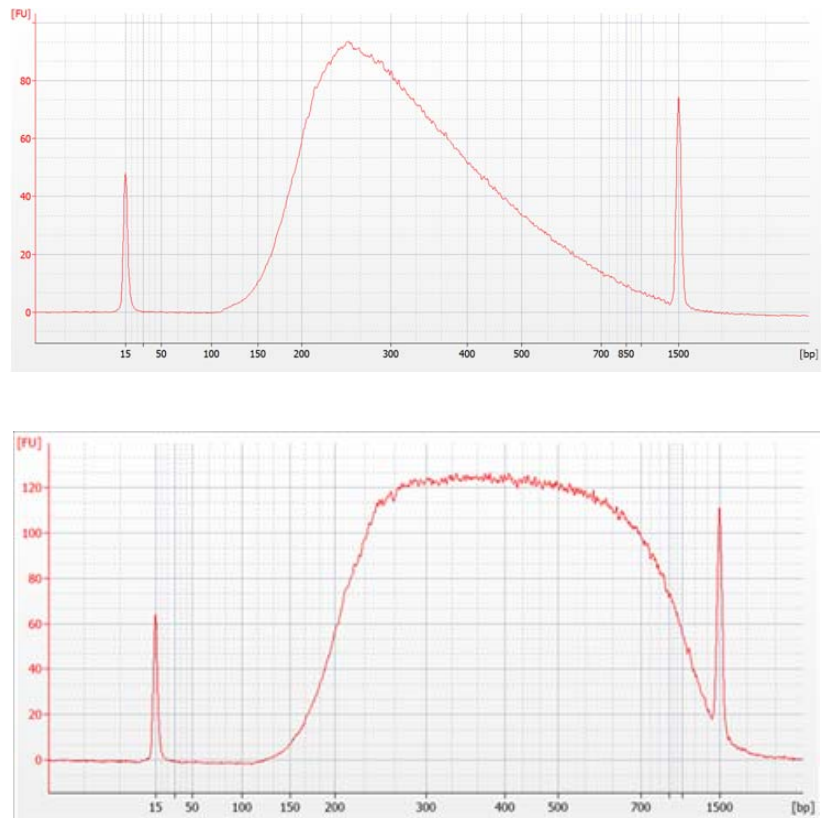

Figure 5 Representative sample electropherograms showing pre-capture analysis of amplified library DNA using the Agilent 2100 Bioanalyzer and a DNA 1000 Assay.
- 6 Verify that the electropherogram shows the peak of DNA fragment size positioned between 245 to 325 bp. Sample electropherograms are shown in Figure 5. Variability of fragmentation profiles may be observed.